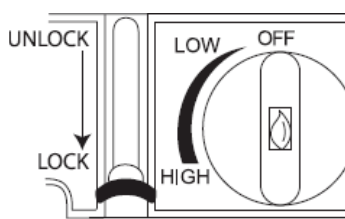

Fig. 3
- Push the gas cartridge lock down to the 'LOCK' position in one firm motion. (Fig 3)